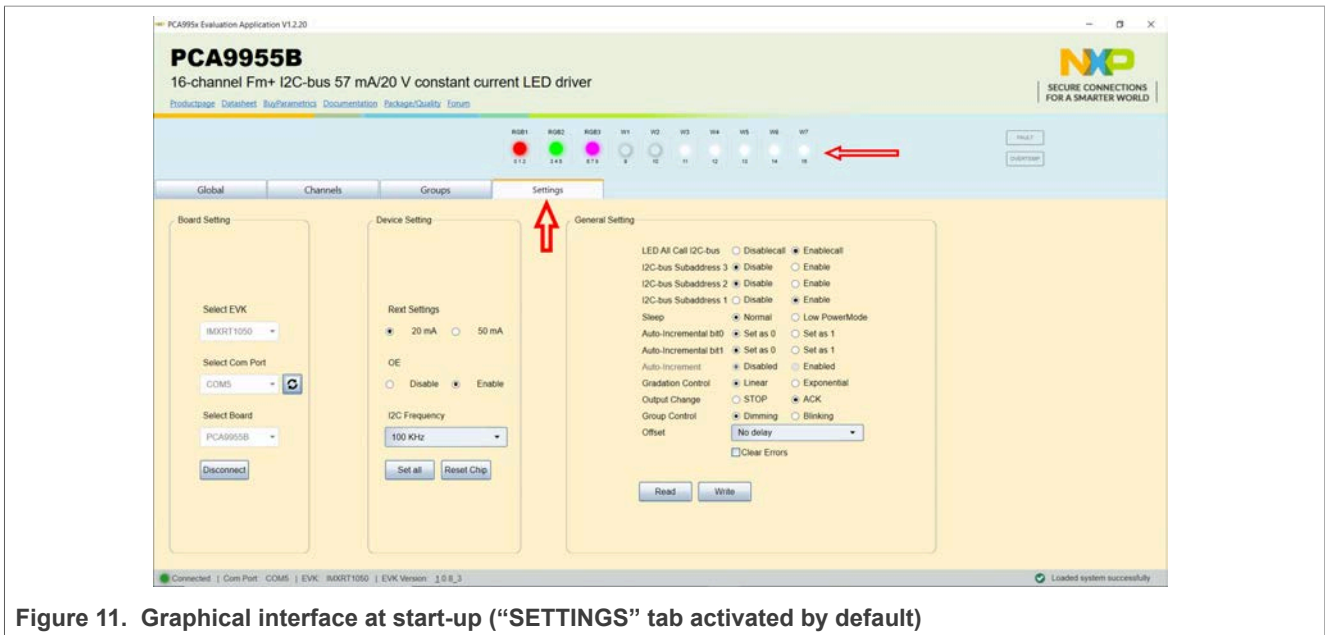

Figure 11. Graphical interface at start-up (“SETTINGS” tab activated by default)
Once installation is complete, assure that one of the mentioned three EVK with attached PCA9955BTW-ARD daughterboard is connected to PC and powered-on. Open “NXP_GUI (PCA995x)” GUI application. An interface will appear as is shown in Figure 11.
The GUI application starts with **Settings** tab (marked in Figure 11 with red up arrow). In the right side of the blue region are located two read-only flags mapped in “MODE2” register (#01h). The **FAULT** flag indicates that the PCA9955BTW-ARD’s internal controller has detected an LED output error (no load, short). The **OVERTEMP** flag indicates that the PCA9955B die temperature exceeds its specified limit (see the PCA9955B datasheet, Section 7.3.15 “LED error detection” and Section 7.3.16 “Overtemperature protection”).
The LED indicators on the GUI are indicating the status of the on-board LEDs (marked in Figure 11 with red left arrow).
- **Select Board:** allows the user to select the correct daughterboard (the application can support three different boards). In Figure 11 the selected board is **PCA9955B**.